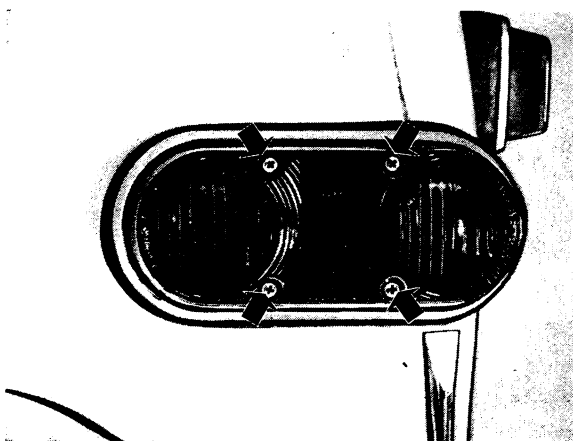

Fig. 3-86. Removing rear light
1. Unscrew the four screws holding the glass, see Fig. 3-86.